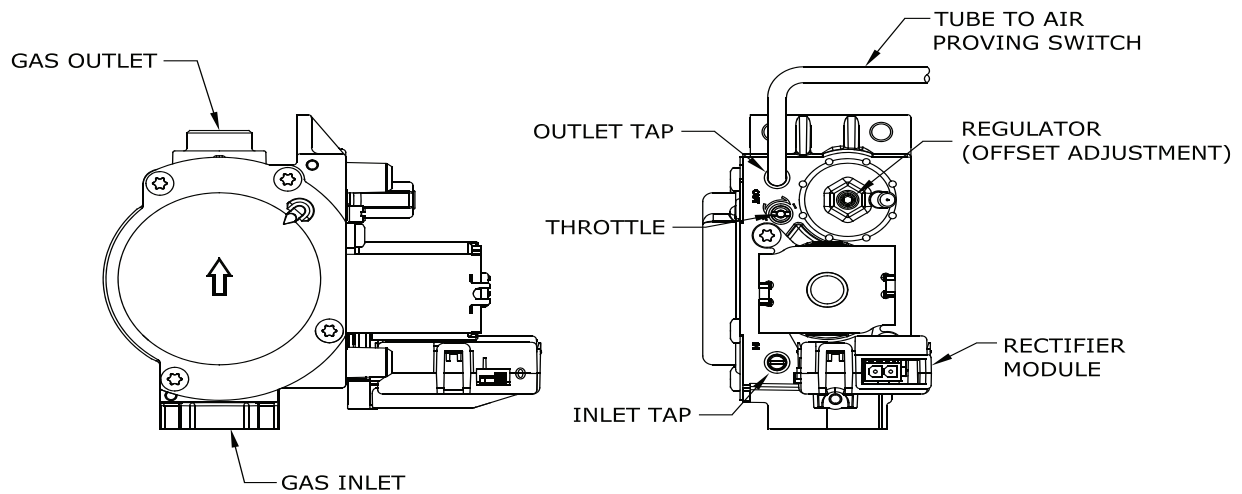

Figure 7: Gas Valve Detail
10. (on bench) Remove (2) screws connecting gas valve to venturi assembly.
11. Remove (3) screws connecting venturi assembly to blower.
12. Replace natural gas venturi assembly with propane (LP) venturi assembly, ensuring O-ring between blower and venturi assembly is in place and arrow on venturi points up.
13. Secure venturi assembly to blower using (3) screws removed in step 11.
14. Ensure coupling between venturi assembly and gas valve is in place and secure using (2) screws removed in step 10.
15. Reconnect cold burner door to heat exchanger using (4) 10mm nuts removed in step 7.
19. Before attempting to start the boiler, turn the throttle (Figure 7) clockwise until it stops (several turns).